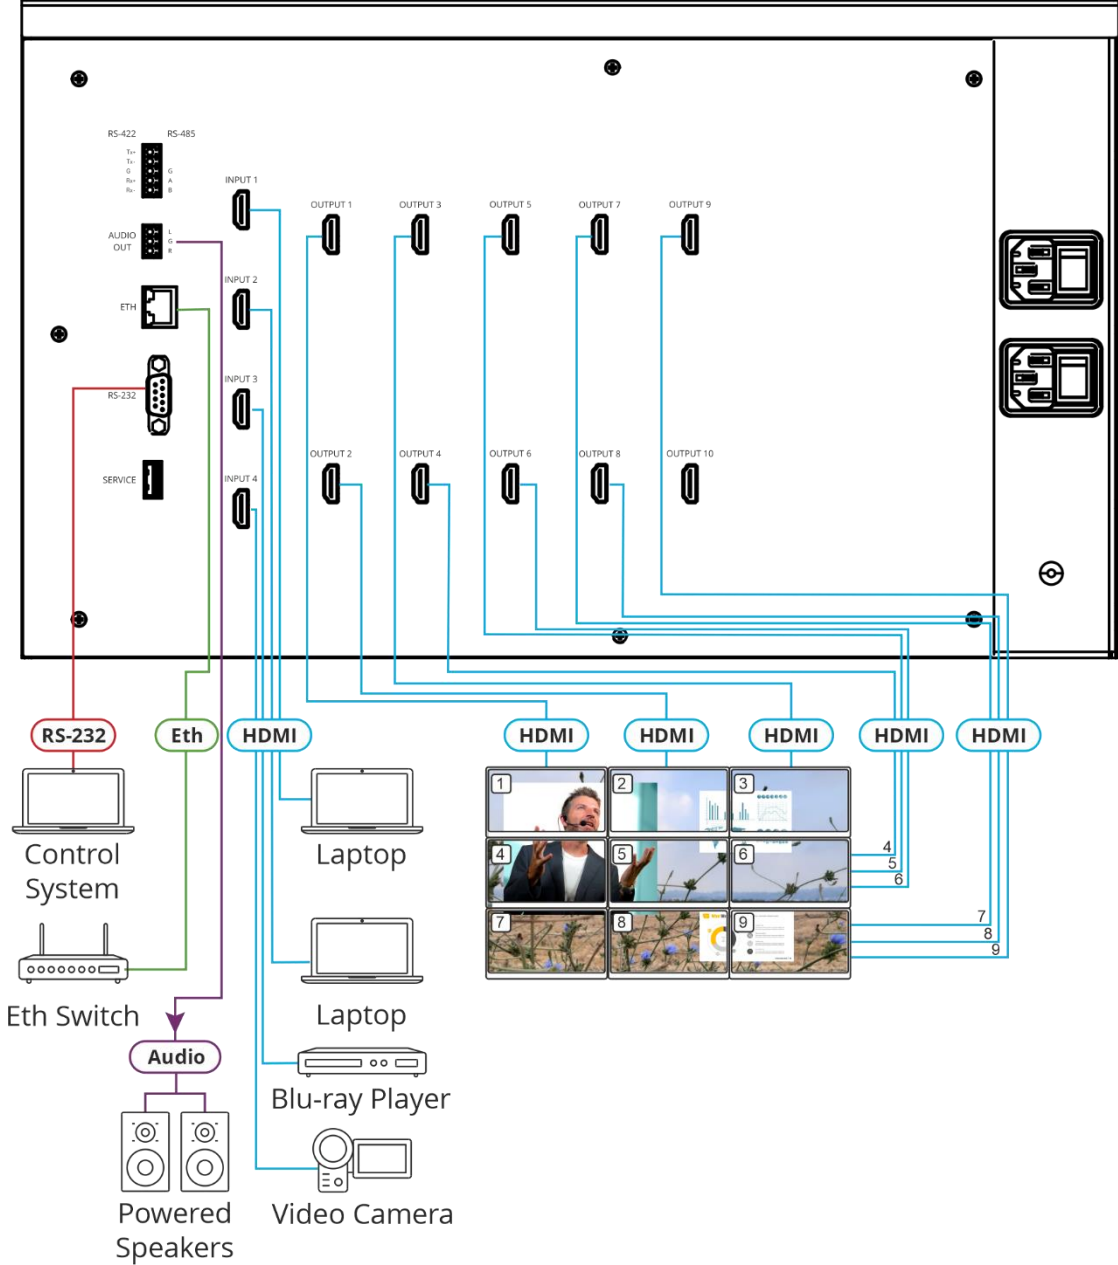

Figure 3: Connecting to the **Error! No document variable supplied.** Rear Panel
**To connect VW-9 as illustrated in the example in Figure 3:**